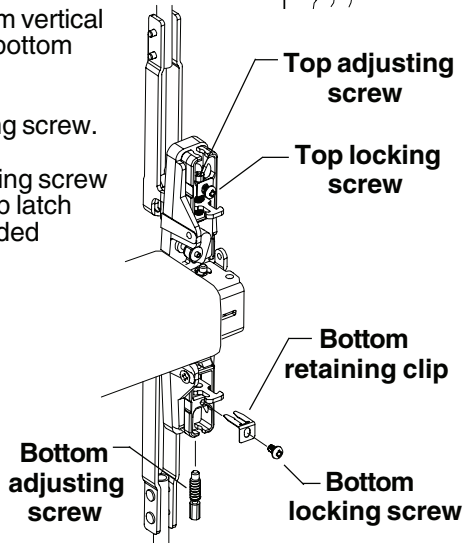

Figure 11-2
- B. Loosen bottom locking screw (Figure 11-2).
- J. Install bottom adjusting screw, retaining clip, and locking screw (Figure 11-2).